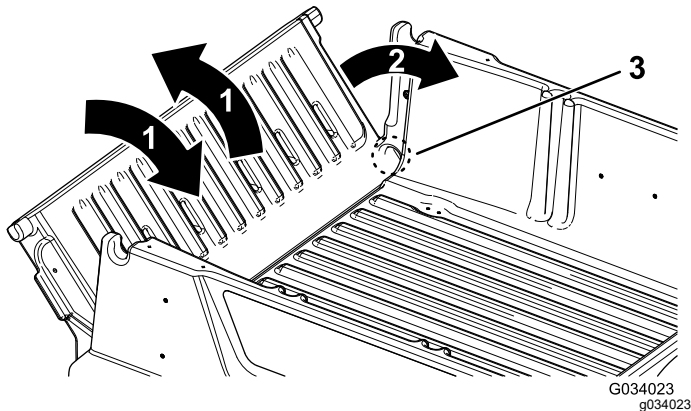

Figure 18
2. Rotate the tailgate to approximately the 45° position (Figure 18).
3. Use a short, shaking motion to rotate the tailgate back and forth several times (Figure 18).